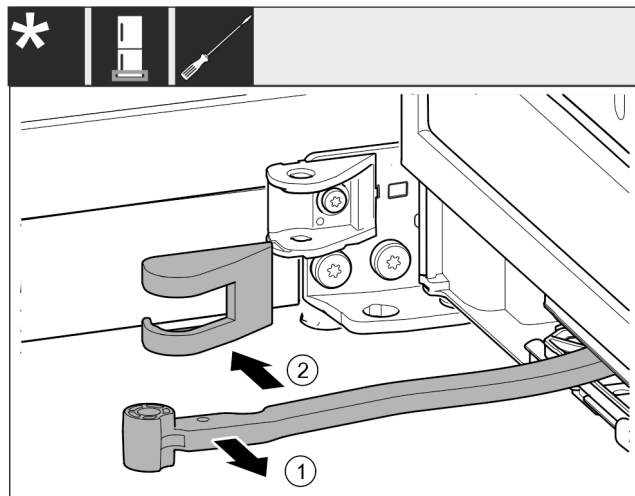

Fig. 16
- Turn the joint Fig. 16 (1) towards the door.
- Remove the swap bearing block cover Fig. 16 (2).